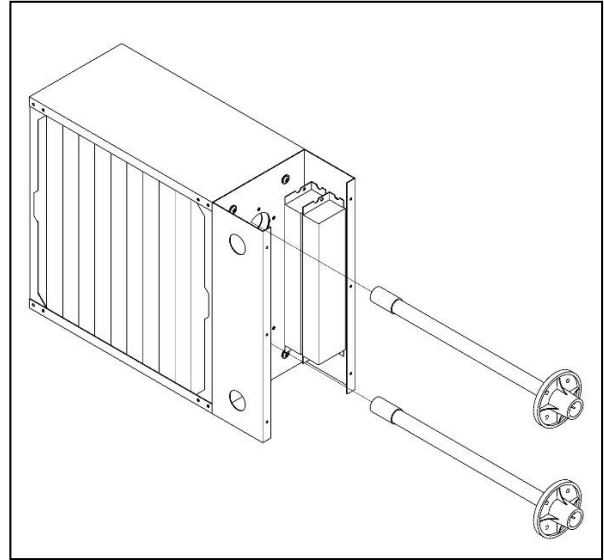

Figure 12
7.) Remove lamps by alternating a quarter turn clockwise and a quarter turn counterclockwise as it is pulled out. This will prevent the lamp from becoming bound up in the catalyst media. See Figure 12.